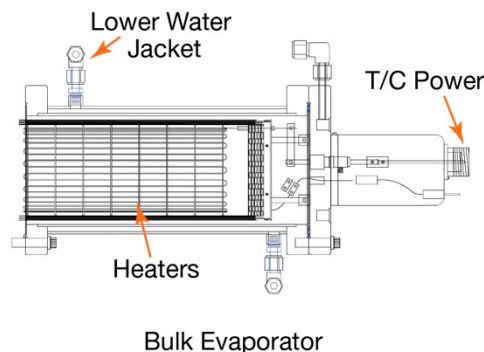

Figure 3: Bulk Evaporator
2. **Bulk evaporator and Lower water jacket:** This includes the bulk heater assembly and its heater/TC connector block. The water jacket fits over the bulk heater assembly and connects the bulk evaporator to the cracking head. It has a 4.62" flange on each end and two water connections. Remove the bolts securing the blank flange. Carefully slide the blank off the heater assembly. Remove the protective cover from the connector block. Inspect for damage. See Figure 3.